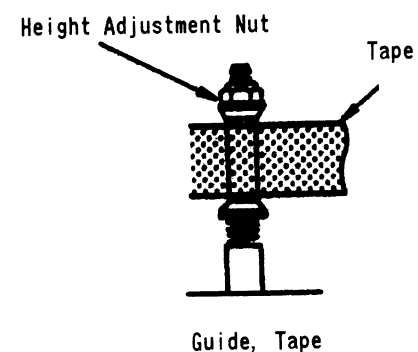

Fig. 6
8. After completion of the supply side guide roller adjustments, adjust tape guide so that tape runs as shown in Fig. 6, and adjust the take-up side guide roller by using the same procedures as for the supply side adjustments. In this case, adjust the guide roller height first.
9. Confirm that there is no curling or creasing at the impedance roller. (Both PLAY and REV modes.) If there is any curling or creasing at the impedance roller, adjust the same procedures of Fig. 6.